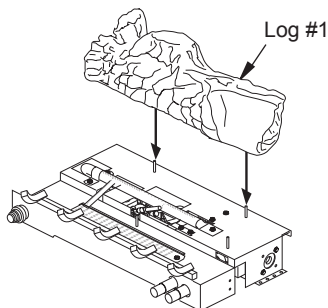

Figure 24 - Installing Log #1
1. Align two pins at rear of base with two holes in bottom of rear log (#1). Place logs on pins (see Figure 24).